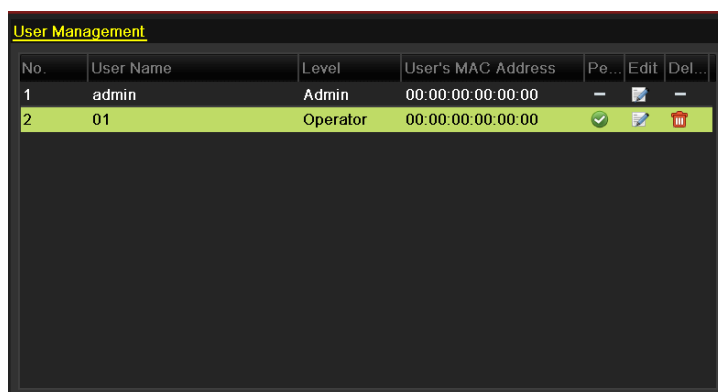

Figure 13. 6 Added User Listed in User Management Interface
4. Click the **OK** button to save the settings and go back to the User Management interface. The added new user will be displayed on the list, as shown in Figure 13. 6.
5. Select the user from the list and then click the  button to enter the Permission settings interface, as shown in Figure 13. 7.